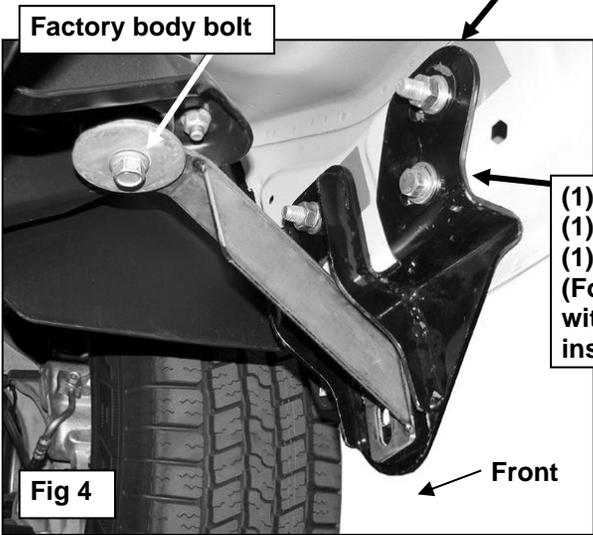

Fig 4
6. Select the passenger side front Mounting Bracket. Position the Mounting Bracket onto the (2) Bolt Plates. Secure the Bracket to the Bolt Plates with (1) 12mm Flat Washer, (1) 12mm Lock Washer, (1) 12mm Hex Nut and (1) 10mm flat washer, (1) 10mm lock washer & (1) 10mm Hex Nut **(Figure 4)**. Do not tighten at this time. Rotate the Bolt and Nut plate until the threaded Nut end lines up with the remaining hole in the Mounting Bracket and body. Thread (1) 10mm x 35mm Hex Bolt, (1) 10mm Flat Washer and (1) 10mm Lock Washer into the threaded nut plate. **Mid-year 2015 Rams come equipped with pre-installed 8mm threaded inserts. Substitute (1) 8mm x 30mm Hex Bolt, (1) 8mm Flat Washer and (1) 8mm Lock Washer for the 10mm hardware.** Snug but do not tighten hardware at this time.
7. Remove the passenger side front factory body bolt. Select the passenger side Front Support Bracket. Insert the factory body bolt through the Support Bracket and up into its original position, **(Figure 4)**. Line the other end of the Support Bracket up with the oval hole in the Front Mounting Bracket. Snug but do not tighten hardware at this time.